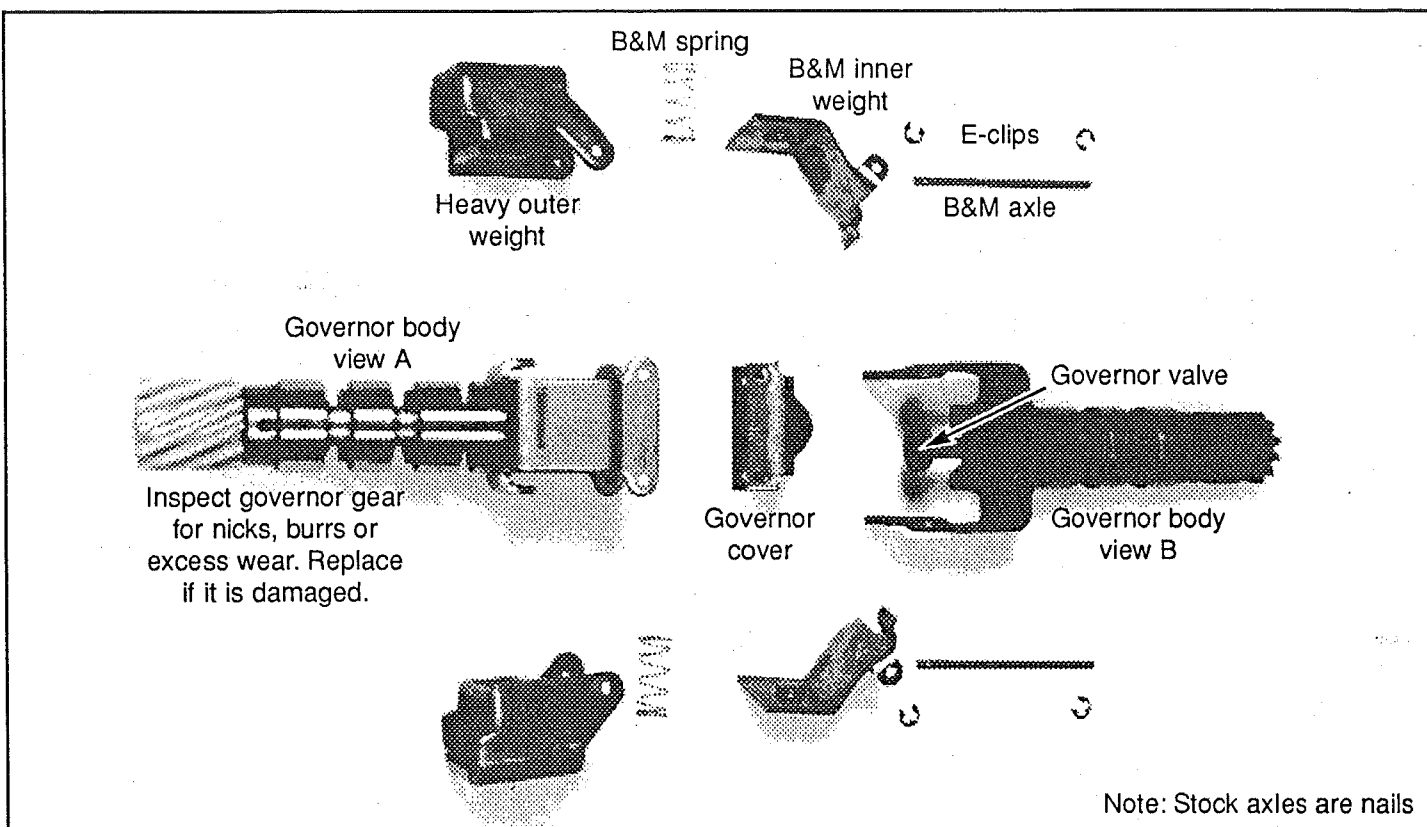

Figure 1
Step 3. Place the inner weight inside the heavy outer weight. Place the spring from the kit on the raised spring perches. Install one of the supplied E-rings on each of the supplied axles. Install the weight and spring assembly onto the governor. Place the cover on the governor. Insert axle through the cover, governor body and the weights. Install a second E-ring on each of the axles. Make sure the governor valve moves freely in it's bore and the governor weights move freely and properly (see figure 1).